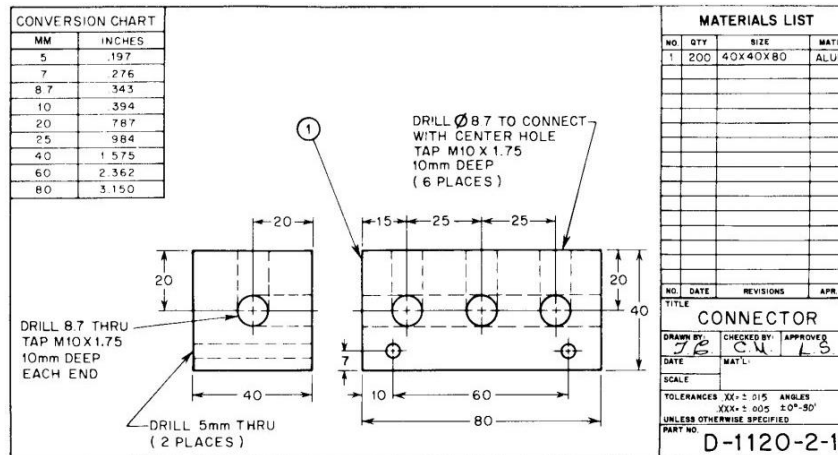

Fig. Qn 4(a)
- a) Analyze the part drawing and production plan shown in Fig. Qn 4(a) and determine all the relevant information necessary to design a channel or box Jig (10 marks)